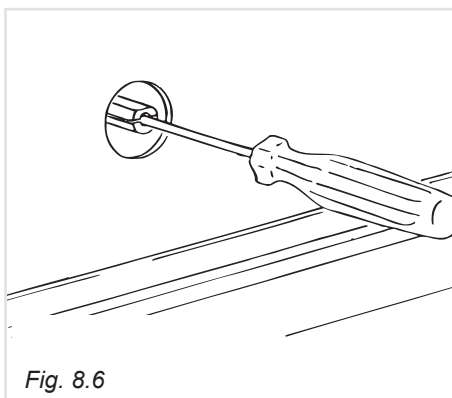

Fig. 8.6
- With a small flat screwdriver turn the screw inside the tap rod to the correct regulation (fig. 8.6).